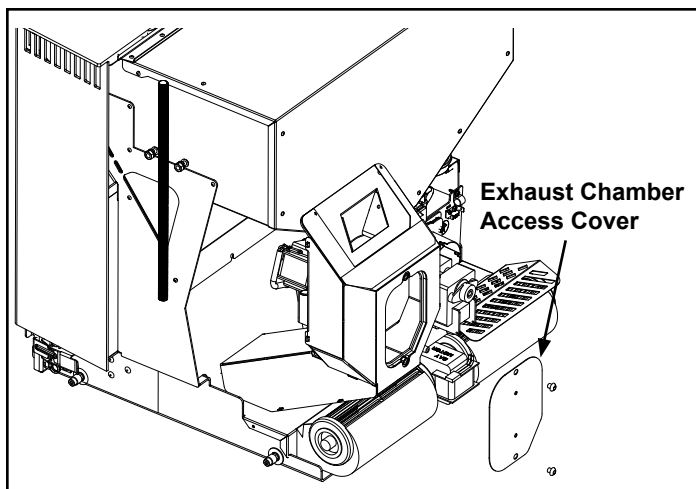

Figure 3.9
6. Remove the exhaust chamber access cover on the right rear of the insert. Figure 3.9.